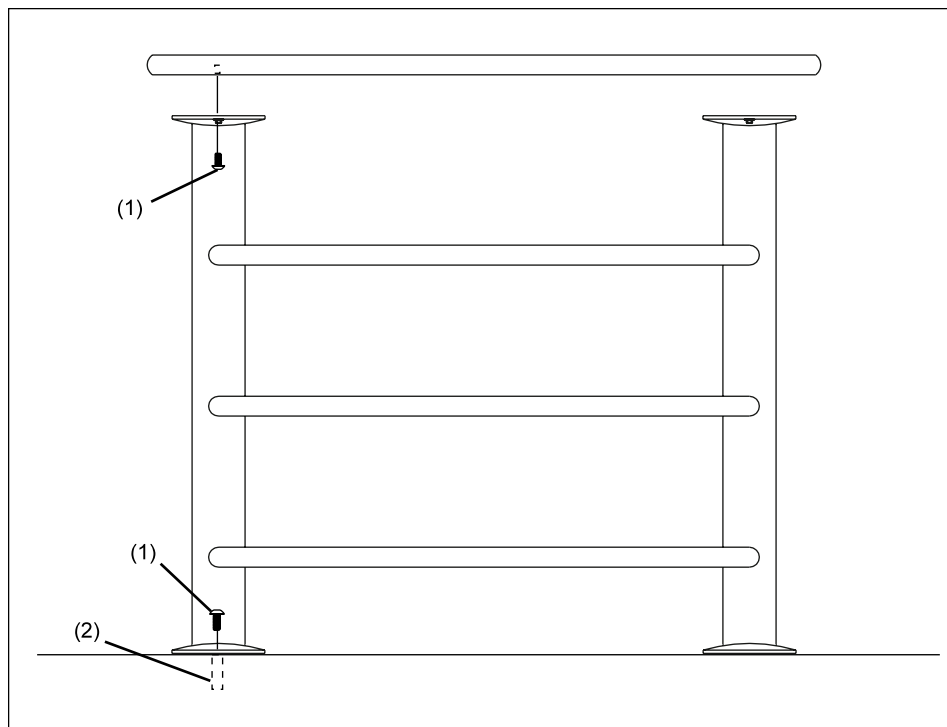

Figure 10. Align Table Top to Mounting Plate and Secure
1. Align the threaded insert in the table top with the mounting holes in the table mounting plate. Secure the table top to the two table mounting plates using 3/8-16 x 3/4" button head cap screws. Refer to *Figure 10*.
2. Secure the base of each ball rack pedestal with two 3/8-16 x 3/4" button head hex socket cap screws. Reference *Figure 10*.